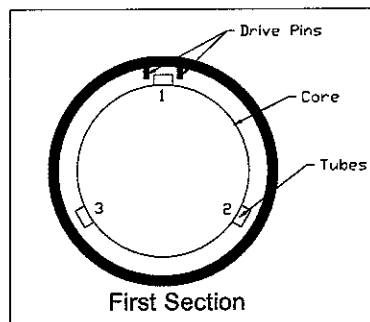

figure 1
- a. Number the tubes on the core as 1, 2 and 3 (figure 1).
- b. Slide the first section onto the core with the drive pins on either side of tube 1. Make sure that the drive pins angle up (figure 1).